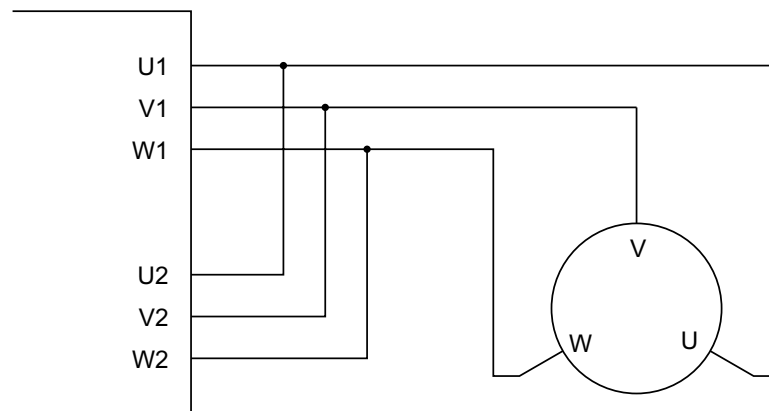

FIGURE 3. Single Channel Wiring Diagram
On the Single Channel SBLM23xxS, each of the motor wires must be connected to both output terminals of the same letter as shown in Figure 3, below. Use the Encoders and/or Hall sensors of Channel 1 for operation.
**The wiring shown in Figure 3 must be done only on the single channel version of the controller. Paralleling the wires on a dual channel product will cause permanent damage. Verify that your controller is an SBLM2360S before you wire in this manner.**